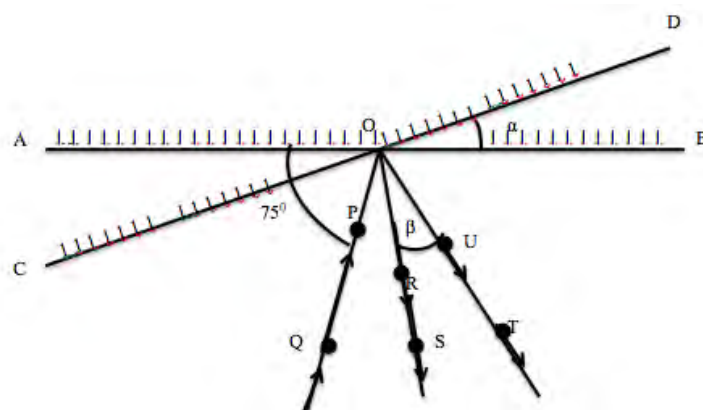

Figure 1
- (a) Put the drawing paper on the drawing board using thumb pins and draw two straight lines AB and CD to enclose an angle of $\alpha = 10^\circ$. Draw the line through O making 75° with AB. Then insert two optical pins P and Q on this line (see Figure 1).